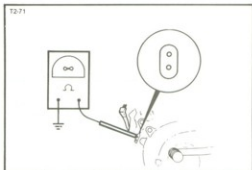

Figure 8-17. Testing For Grounded Stator
2. See Figure 8-17. Connect an ohmmeter on the RX1 scale between ground and either stator pin or socket. There should be no continuity (infinite ohms) across either test point. Any other reading indicates a grounded stator which must be replaced.